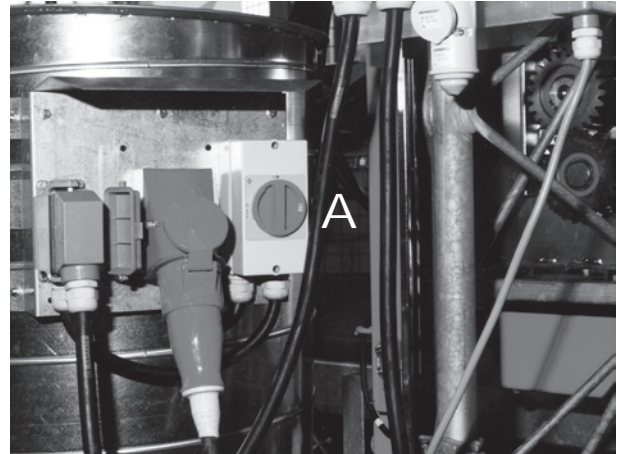
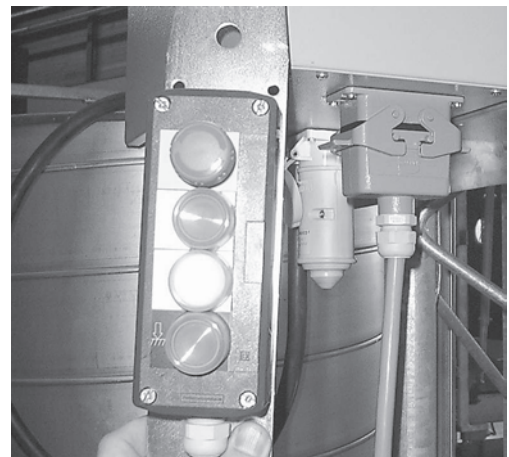

Fig.7-08 Main switch on cable drum
Fig.7-09 Remote control
2. Check whether the machine is connected to the mains. Check the position of the main switch on the cable drum (fig. 7-08, A) and ensure that the green indicator lamp on the ground station control box (optional) is lit. If not, check whether the emergency stop button on the platform control box has been pressed, a landing barrier has not been closed correctly or the dummy plug instead of the remote control (fig. 7-09) has been installed.